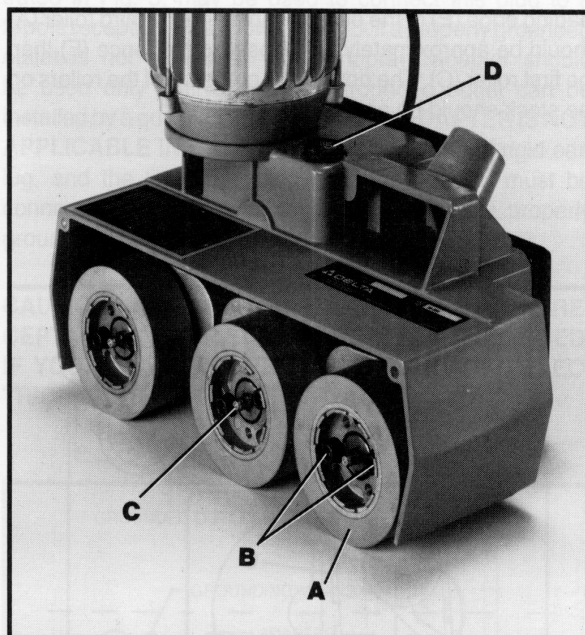

Fig. 11
Each feed roller (A) Fig. 11, is removable for repair or replacement by removing two screws (B) and removing the feed roller. Replace screws (B) Fig. 11, after feed roller is replaced.
The feed rollers (A) Fig. 11, should be lubricated approximately every 200 hours of use with grease (Delta Part No. 999-02-023-1213) through grease fittings (C) using grease gun supplied with the machine.